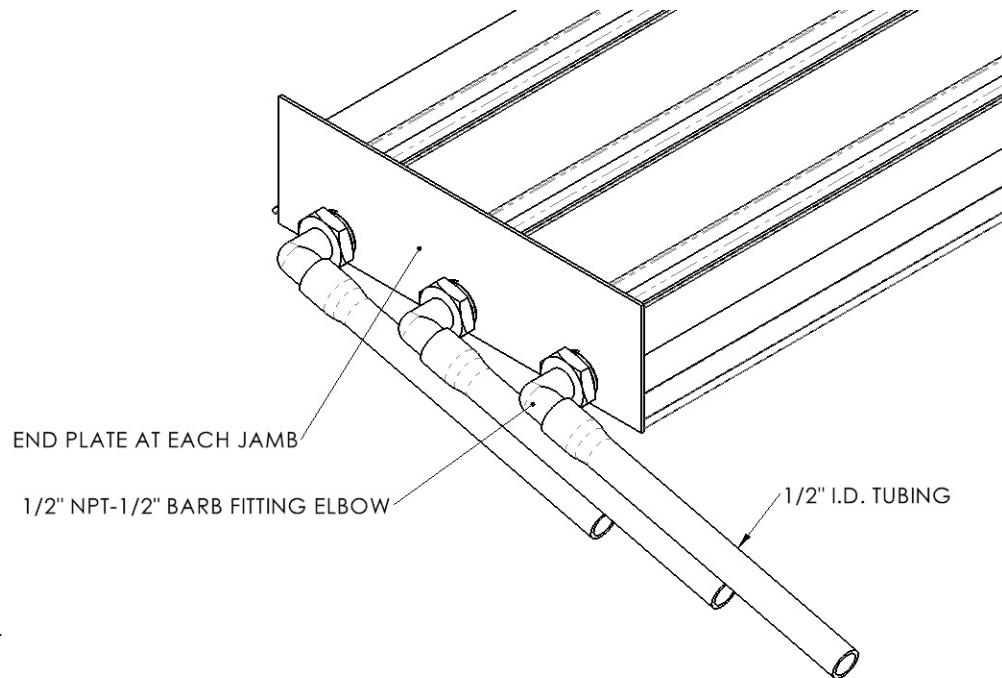

Figure 5
- Side Drain Fitting Sill (See Figure 5).
Screw the $\frac{1}{2}$ " NPT pipe to $\frac{1}{2}$ " hose barb fittings using tread sealant or Teflon tape to the ends of each track. Push fully the $\frac{1}{2}$ " minimum inside diameter hoses onto the barbed fittings and route to an appropriate drainage location, ensuring that the hoses have a continuous downward slope of at least $\frac{1}{4}$ " per foot. (See Figure 5). Skip to step 10.